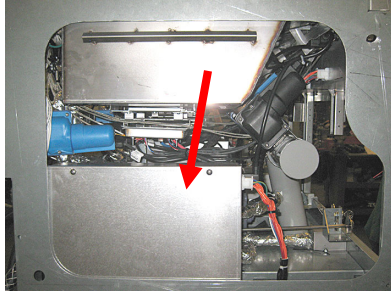

Figure 35
5. Remove the two screws securing the cover of the contactor box cover from the contactor box (see Figure 35).